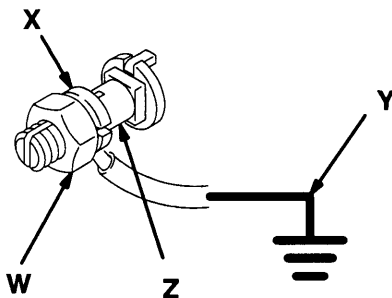

Fig. 1
1. *Pump*: use a ground wire and clamp as shown in Fig. 1.
To ground the pump, loosen the grounding lug locknut (W) and washer (X). Insert one end of a 1.5 mm² (12 ga) minimum ground wire (Y) into the slot in lug (Z) and tighten the locknut securely. See Fig. 1. Connect the other end of the ground wire to a true earth ground.